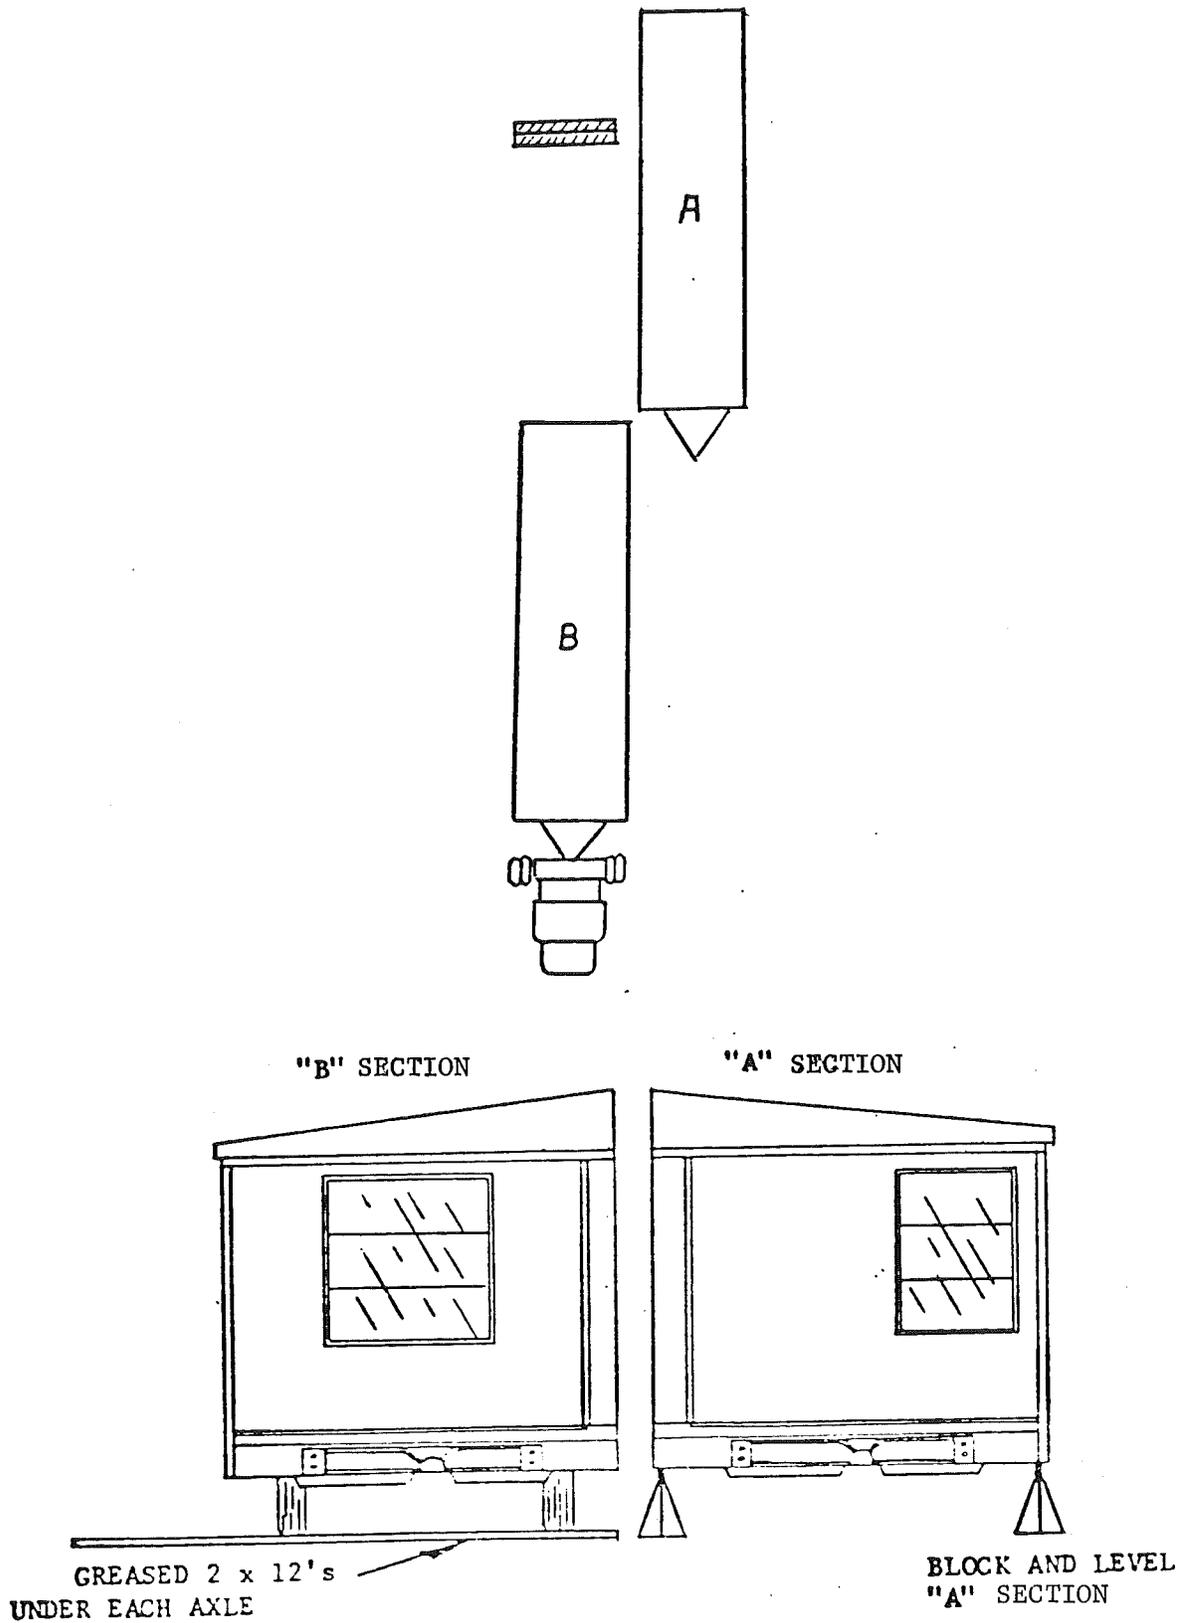

FIGURE 1 - MANUFACTURED HOME PLACEMENT
3. Setting and leveling "B" Half (Figure 1)